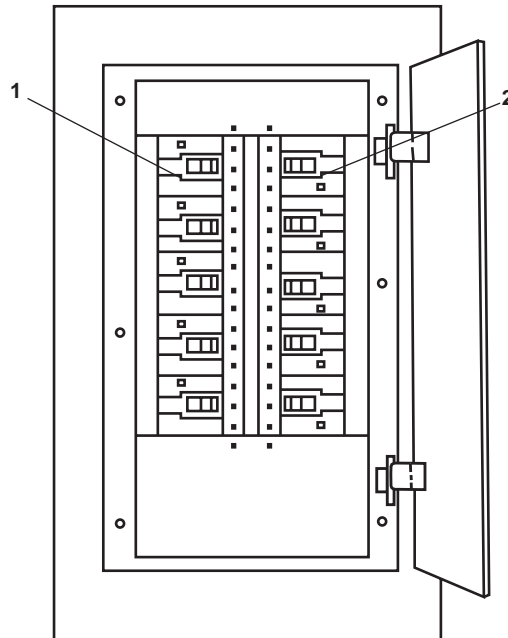

Figure 2. 440V Power Panel No. 4
- a. AIR COMPRESSOR No. 1. (figure 2, item 1)
- b. AIR COMPRESSOR No. 2. (figure 2, item 2)